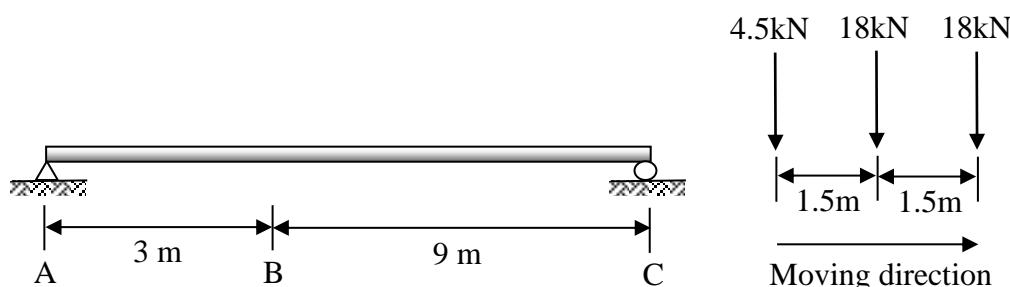

Figure 2(a) / Rajah 2(a)
- (a) A simply supported beam is subjected to a series of moving load as shown in Figure 2(a). By using Influence Line Diagram, analyse the maximum shear force and bending moment at point B due to series of loads moving from A to C.
- (b) Figure 2(b) shows a simply supported beam is subjected to a series of moving load 20kN, 10kN, 15kN, 20kN and 10kN respectively. Evaluate the Absolute Maximum Moment due to series of loads moving from left to right by using Influence Line Diagram.